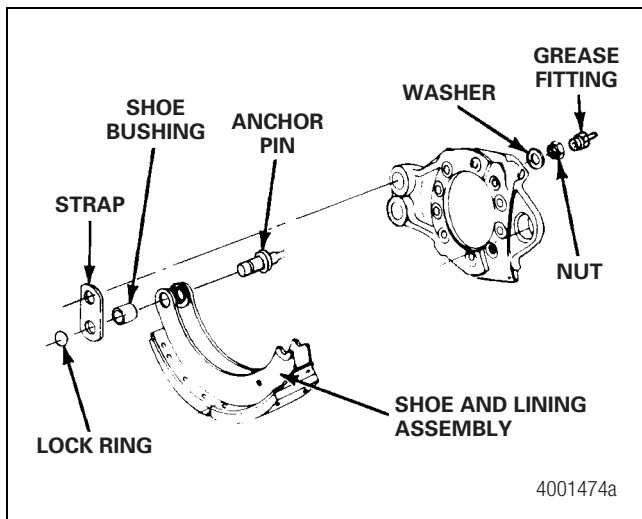

Figure 5.29
- A. **For a straight anchor pin with threads**, place the anchor pin through the shoes and into the shoe side of the spider. The threads on the pin must be toward the slack adjuster. Figure 5.29.